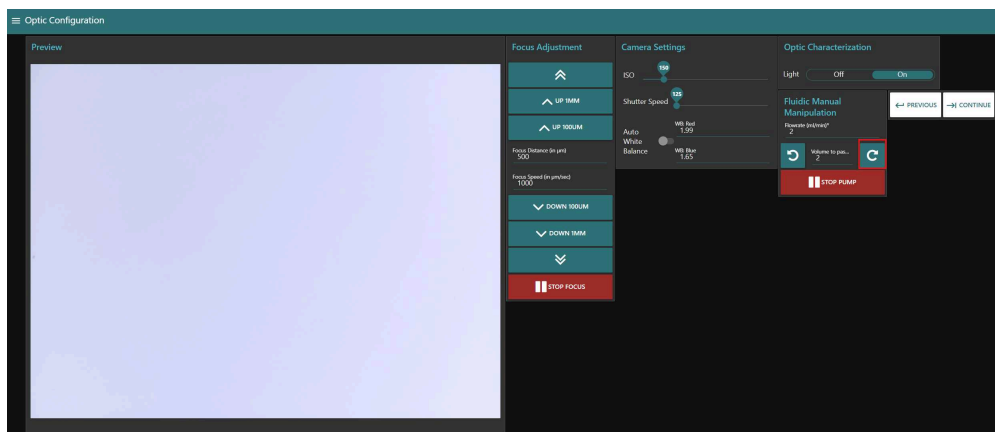

Figure 9: The red square highlights the location of the clockwise arrow that will rotate your peristaltic pump
- Under "Fluidic Manual Manipulation" (Fig.9), **click clockwise arrow** to check that the peristaltic pump is working. You should see the pump rotating in an clockwise direction. You can choose to pass a volume, but keep in mind that **this parameter will not impact the acquisition**. On the other hand, the flowrate parameter will also be effective during an acquisition.